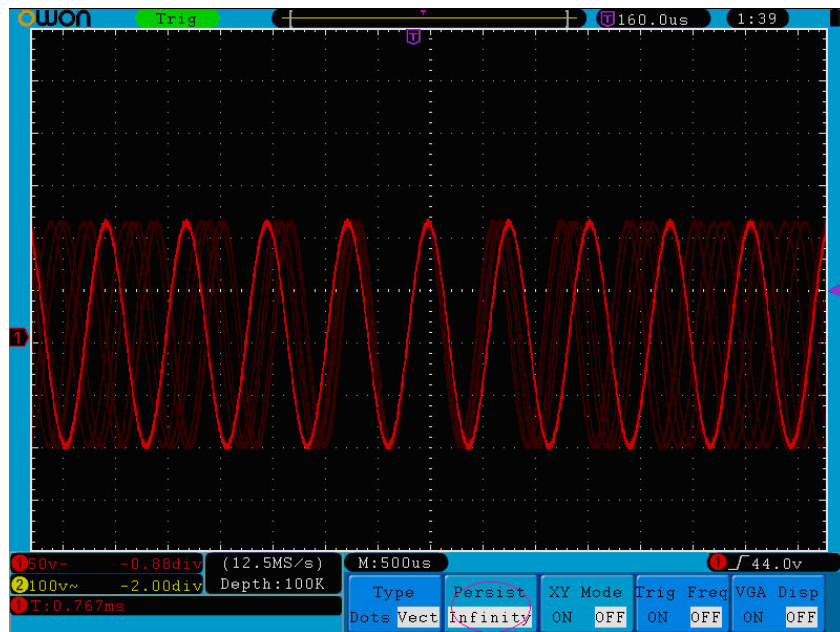

Figure 5-34 Infinite Persistence Display
**OFF, 1second, 2second, 5second** and **Infinity**. When the "Infinity" option is set for **Persist** time, the measuring points will be stored till the controlling value is changed (see *Figure 5-34*). By pressing the **F2** button, the persistence will be cleared.